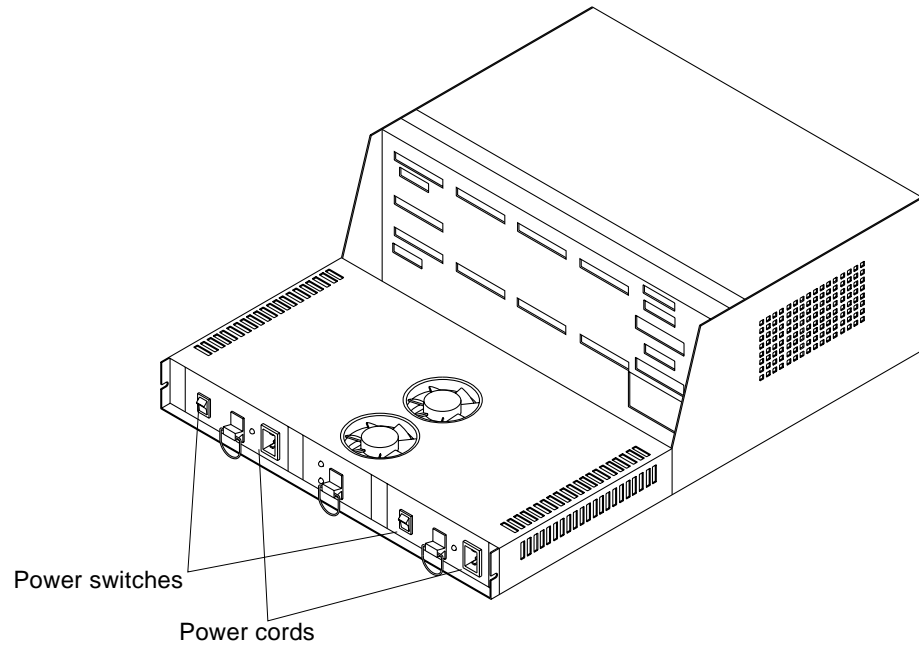

FIGURE 1-19 Power Switch and Power Cord Locations
5. Turn off both power switches and connect the power cords (FIGURE 1-19).
- 1. Turn both power switches on the back of the controller module to the On position (FIGURE 1-19).**